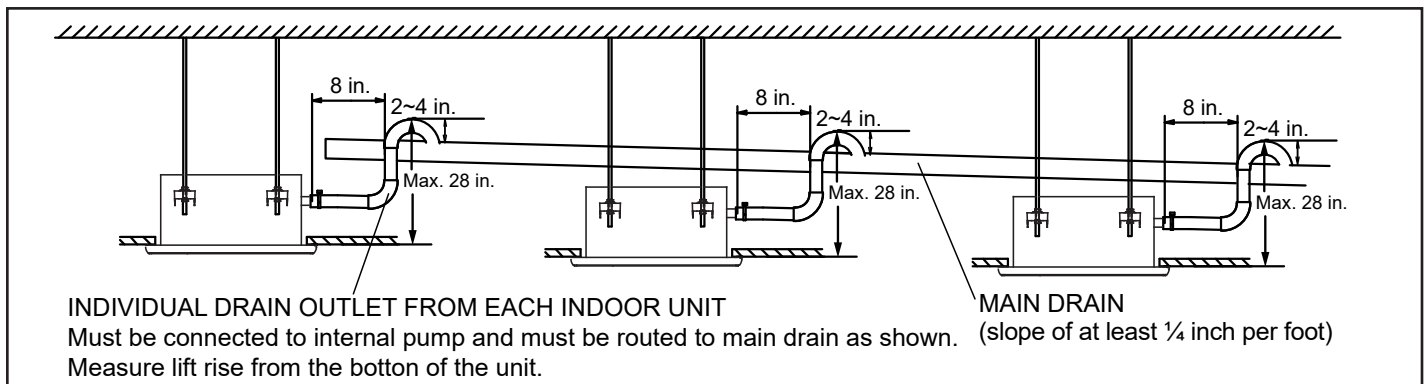

Figure 8. Using a Main Drain to Serve Multiple Indoor Units
4. See Figure 8 for applications including multiple units using the internal pump to provide lift into a single, correctly sized main drain. In this case, ensure that the main drain line is properly sloped (no less than 1/4 inch per foot) and that each individual drain is connected to the main drain exactly as shown.